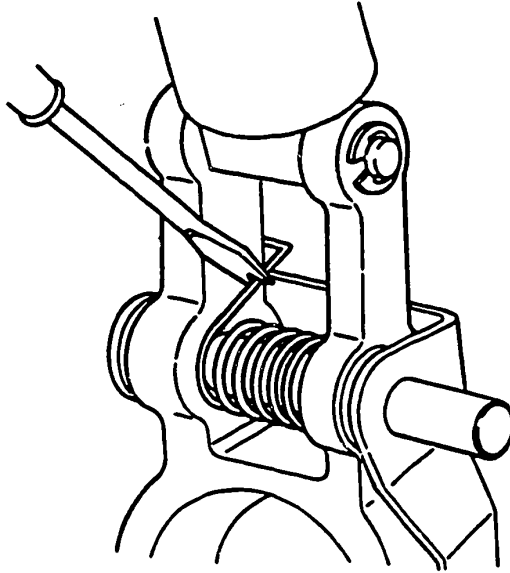

Fig. 77: Positioning return spring
9. In order to facilitate positioning of the return spring (35/7), it is advisable to use a screwdriver with a notch in its blade as shown in Fig. 77.